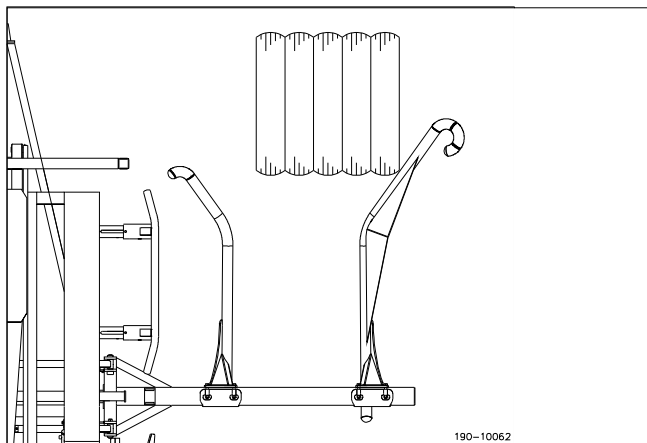

Figure 18
- 3) When ready for the first bale, lower the loading arm to just a few inches above the ground, slow down this is a practice round, line up the machine so that the outer corner of the bale will touch at approximately 1/3 to 1/2 way up the angled part of the outer arm. (Figure 18)